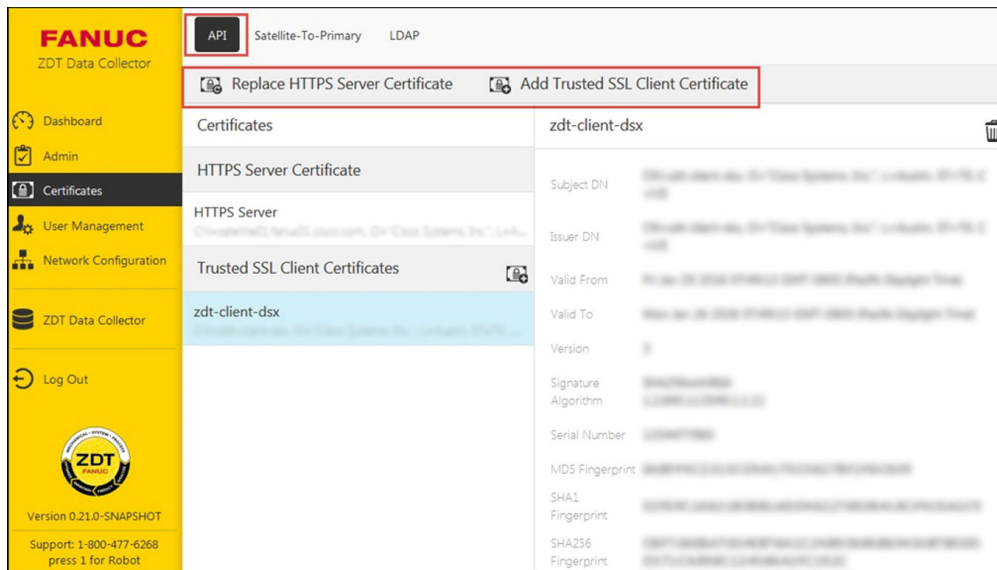

Figure 5.1.1 (a) API Certificates Tab
4. **Add the Trusted SSL Client Certificate.** See Figure 5.1.1 (a).